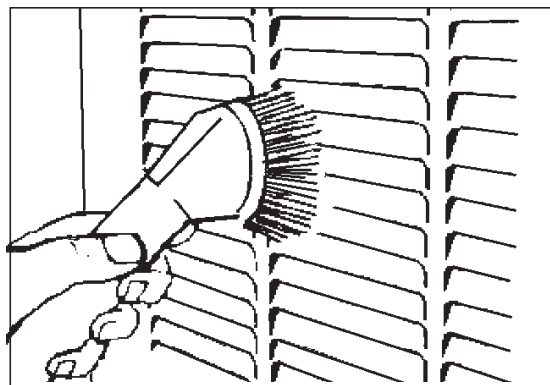

Figure 35. Periodic Cleaning
2. Filters - At least twice each season (more often in dusty areas) remove and clean the air filters with a vacuum or with warm water and soap. Reinstall when dry. Also clean dust and lint around furnace and in the furnace vestibule. (Figure 35.)